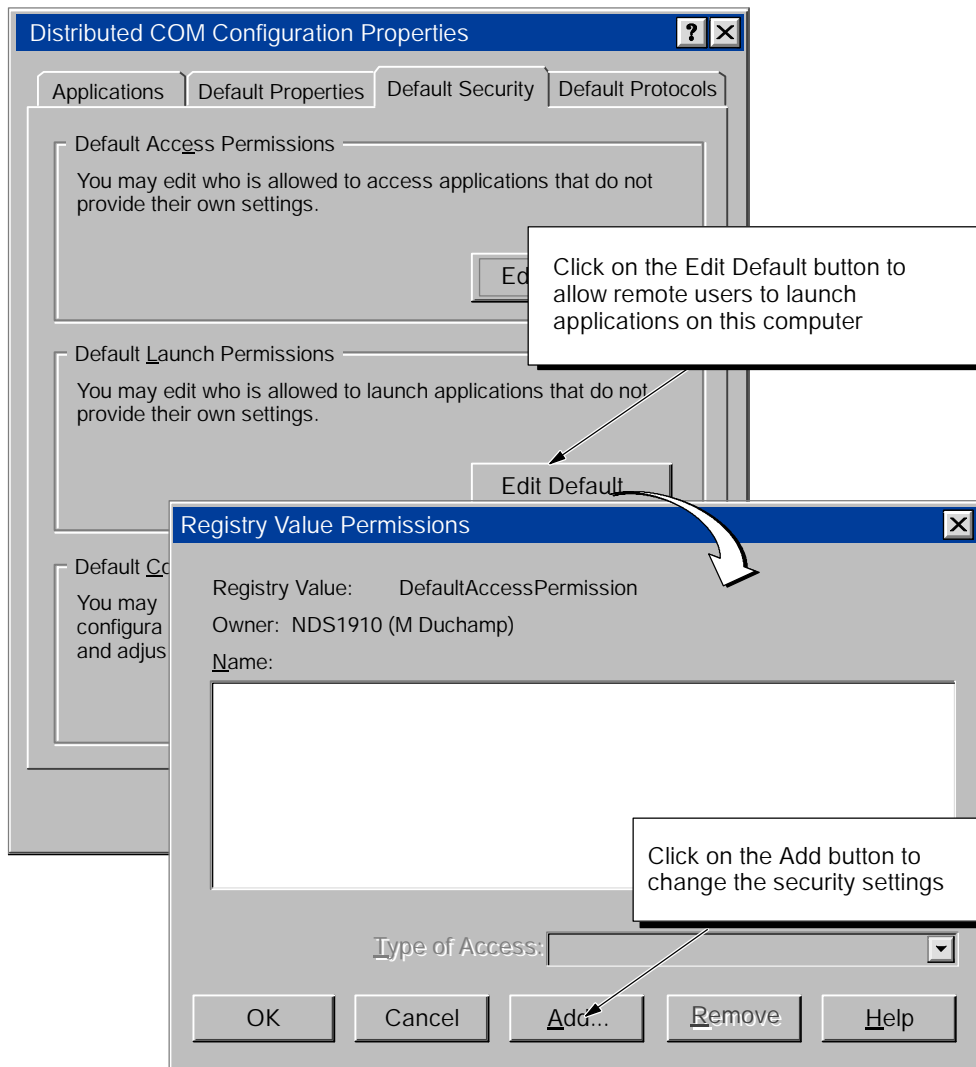

Figure D-6 Configuring the Default Launch Permissions for DCOM
1. Click on the Edit Default button for "Default Launch Permissions" to display the Registry Value Permissions dialog box. See Figure D-6.